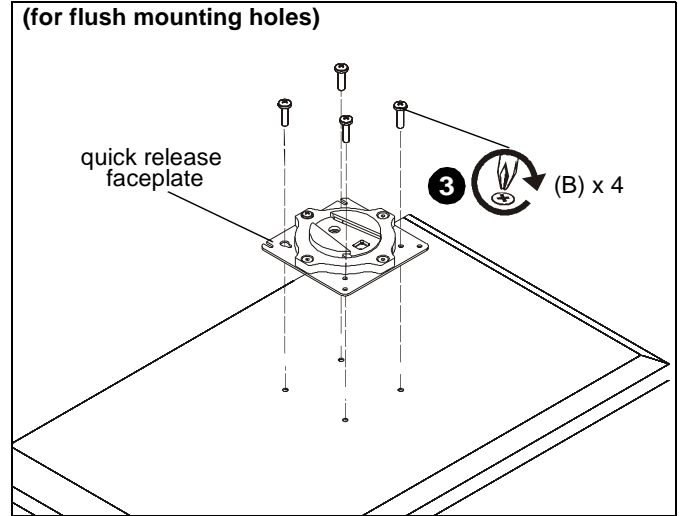

Figure 6
- Using Phillips screwdriver, carefully install four M4x14mm screws (B) through corresponding holes on faceplate and into the mounting holes on the display. (See Figure 6)